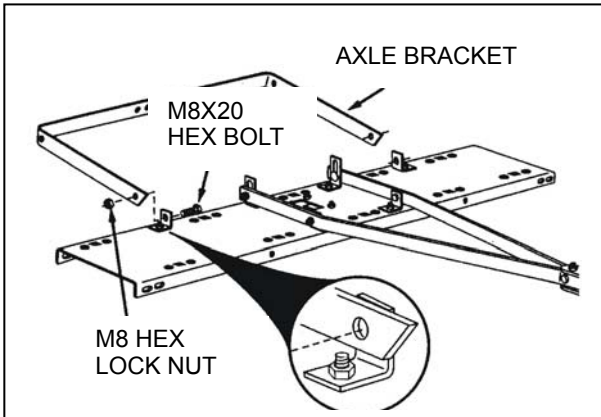

FIGURE 5
11. Assemble the axle bracket on the outside of the angle brackets using two M8x20 hex bolts and M8 hex lock nuts. The ends of the axle bracket must point as shown in figure 5. Tighten and then loosen the bolts and nuts slightly.